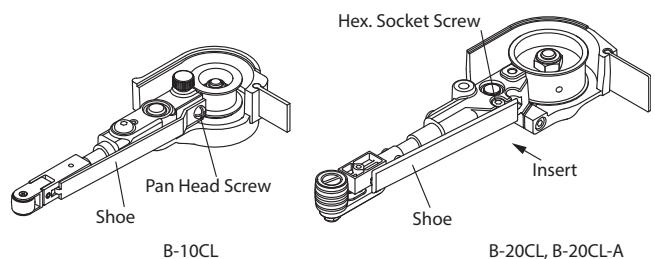

Fig.12
a) B-10CL, B-20CL, B-20CL-A (Fig.12)